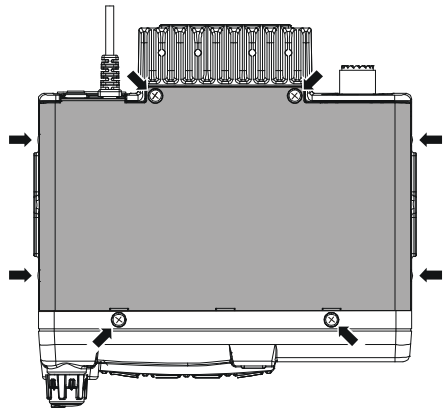

Figure 1
2. Referring to Figure 1, remove the 8 screws affixing the Top Cover, then remove the top cover.